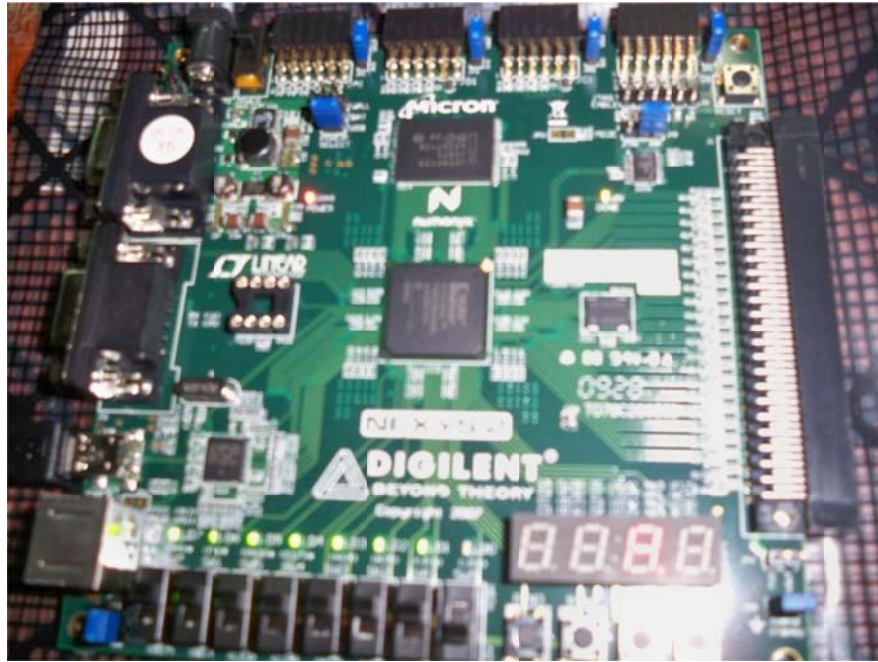

Figure 10B
11. Expand the Scalar Ports folder to see all the input/output ports you have in your top level module. There are two ways to assign the pins, either you drag to the pin location on the FPGA floorplan, or you can write the pin location next to each port. We will assign the ports to the pins needed according to the ports needed on the FPGA Digilent board. These boards have some predefined connections to Switches, Push buttons, LEDs, and seven segments displays. Check the pins you need from the board data sheet. A board picture is shown in Figure 10B.